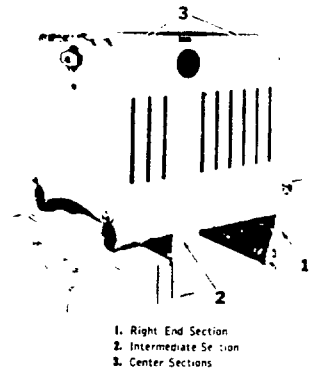

FIG 4—Assembling Larger Boiler
6. For 13 to 41 Section Boilers—Continue to assemble sections until ready for intermediate (thick) section. Bolt two burner support brackets to each side of intermediate base and lengthen tie rods with couplings. Repeat this operation as each intermediate section is assembled. See Fig. 4.